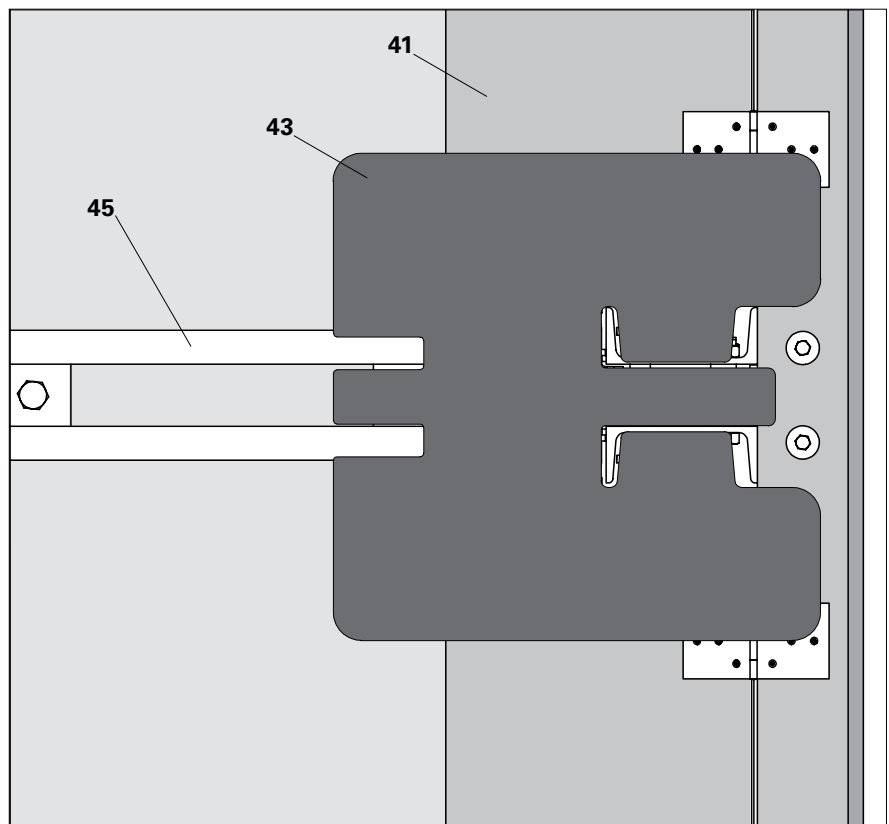

Fig. C4.07
1. Cover all gaps in the area of the Slab Shoe with Cover RCS 70x70 (43). (Fig. C4.07)